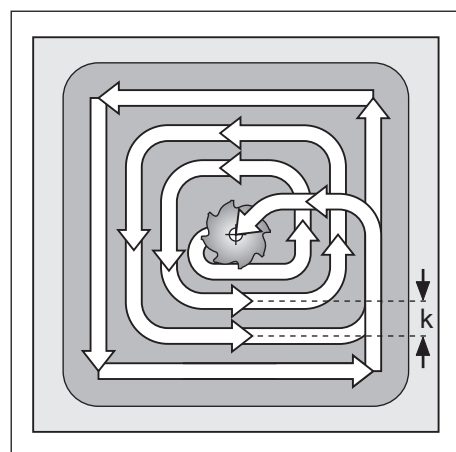

Fig. 8.9: Tool path for roughing out
- the tool subsequently follows the programmed path at the specified feed rate (see Fig. 8.9).